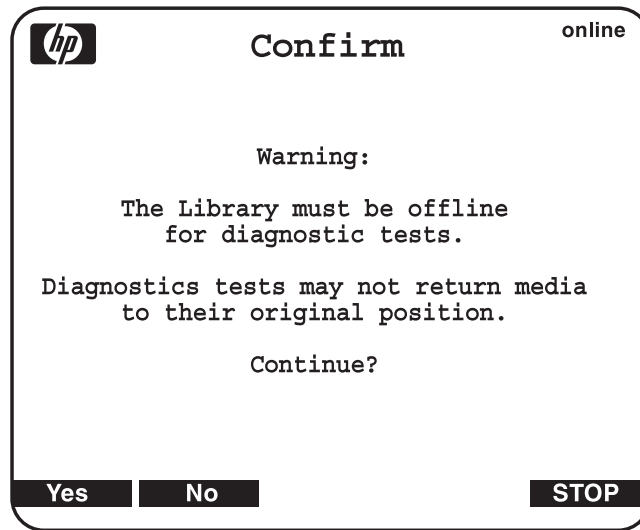

Figure 33: Diagnostics confirmation remaining offline
3. If you did not take the library off-line, the OCP displays a notification (see Figure 33).